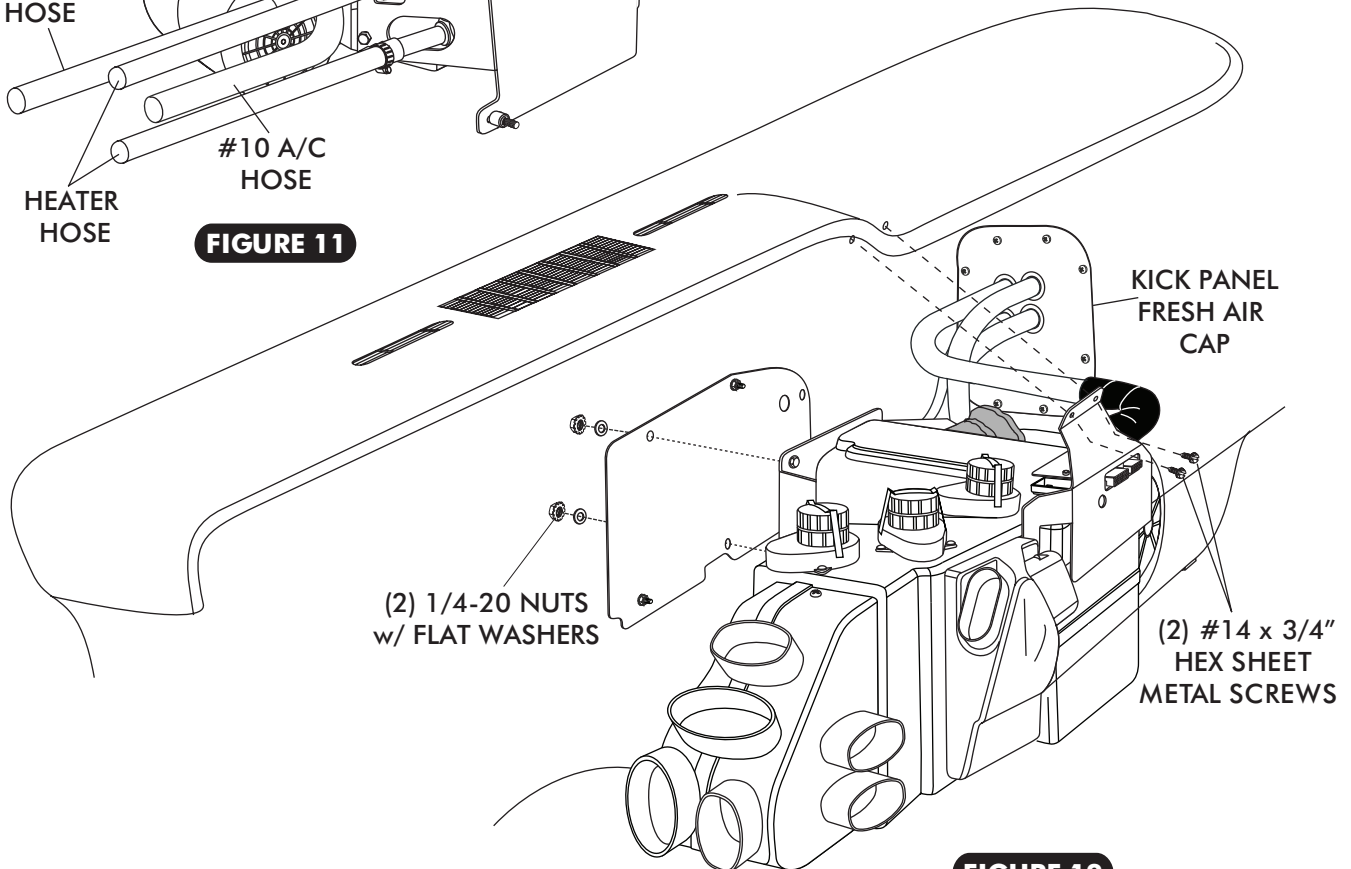

FIGURE 12
- LIFT EVAPORATOR UNIT UP UNDER THE DASHBOARD. SECURE LOOSELY TO THE FIREWALL FROM THE ENGINE COMPARTMENT SIDE USING (2) 1/4-20 NUTS AND FLAT WASHERS, SEE FIGURE 12.
- SECURE THE FRONT EVAPORATOR MOUNTING BRACKET TO COWL USING (2) #14 x 3/4" HEX SHEET METAL SCREWS. SEE FIGURE 12 BELOW.